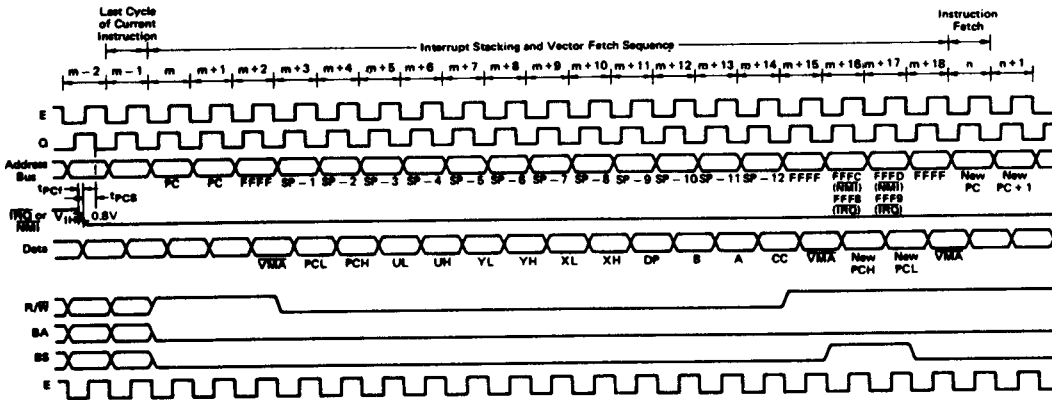

Figure 9 $\overline{\text{IRQ}}$ and **NMI** Interrupt Timing
hardware stack. After reset, an **NMI** will not be recognized until the first program load of the Hardware Stack Pointer (S). The pulse width of **NMI** "Low" must be at least one E cycle. If the **NMI** input does not meet the minimum set up with respect to Q, the interrupt will not be recognized until the next cycle. See Fig. 9.
A "Low" level input on this pin will initiate an interrupt Request sequence provided the mask bit (I) in the CC is clear. Since $\overline{\text{IRQ}}$ stacks the entire machine state it provides a slower response to interrupts than $\overline{\text{FIRQ}}$. $\overline{\text{IRQ}}$ also has a lower priority than $\overline{\text{FIRQ}}$. Again, the interrupt service routine should clear the source of the interrupt before doing an RTI. See Fig. 9.